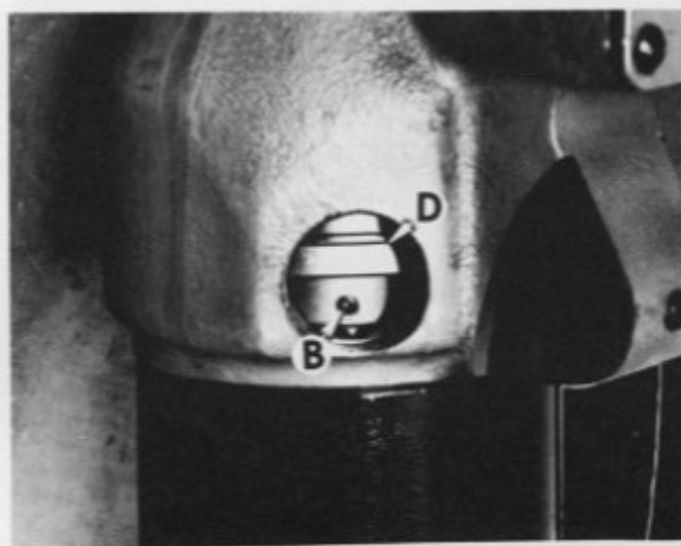

Figure 33 — Drive Brake
3. Loosen set screw "B", Figure 33.